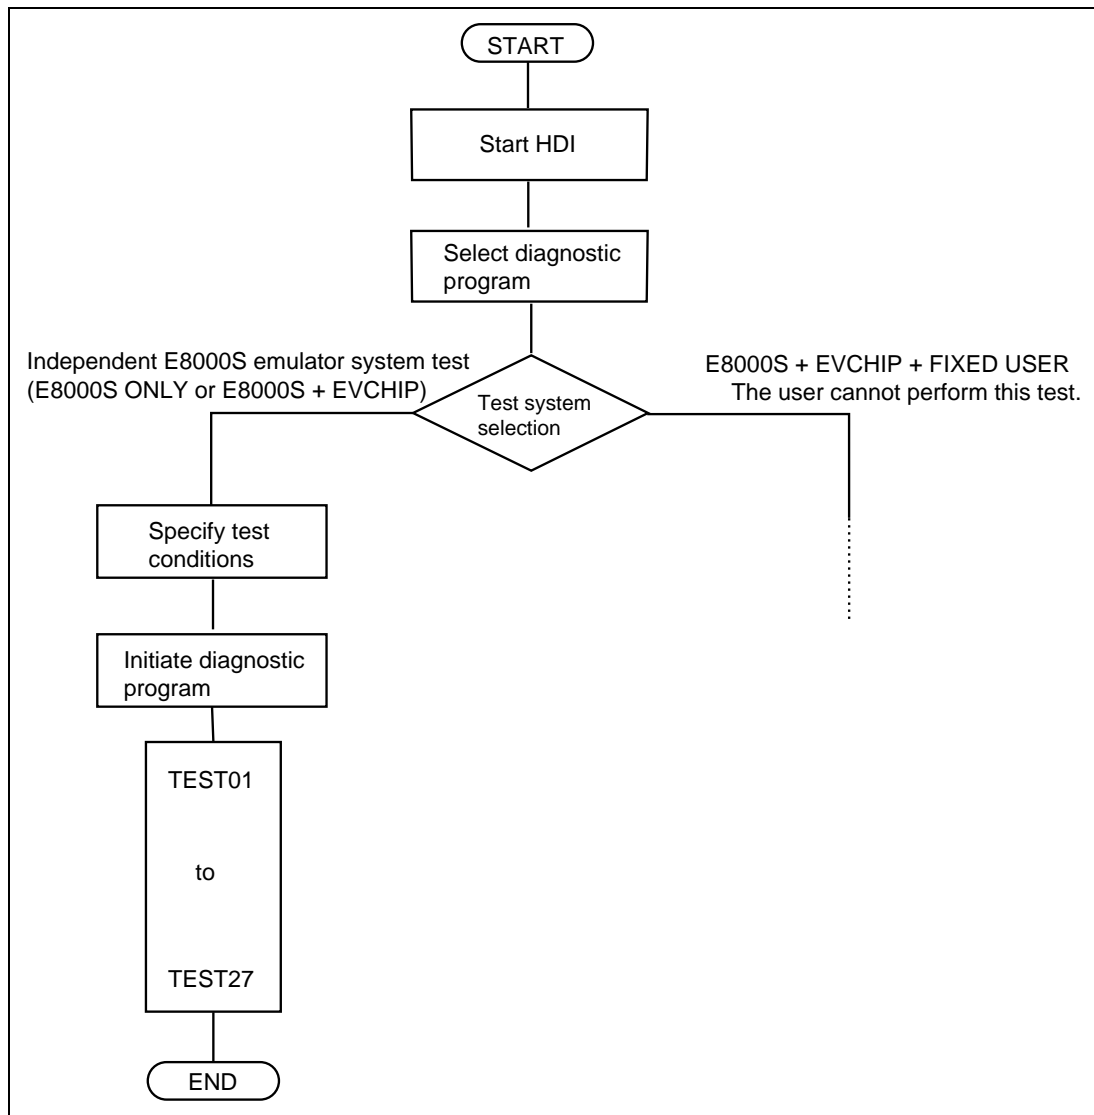

Figure 3.1 Diagnostic Program Operation Flowchart
Figure 3.1 shows the diagnostic program operation flowchart.
6. Execute the diagnostic program using the procedure shown in figure 3.1.